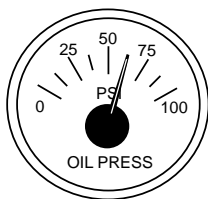

Figure 41. Oil Pressure Gauge
7. The engine oil pressure gauge (Figure 41) will indicate the oil pressure of the engine. Under normal operating conditions the oil pressure is approximately 35 to 65 psi. (193~586 kPa).